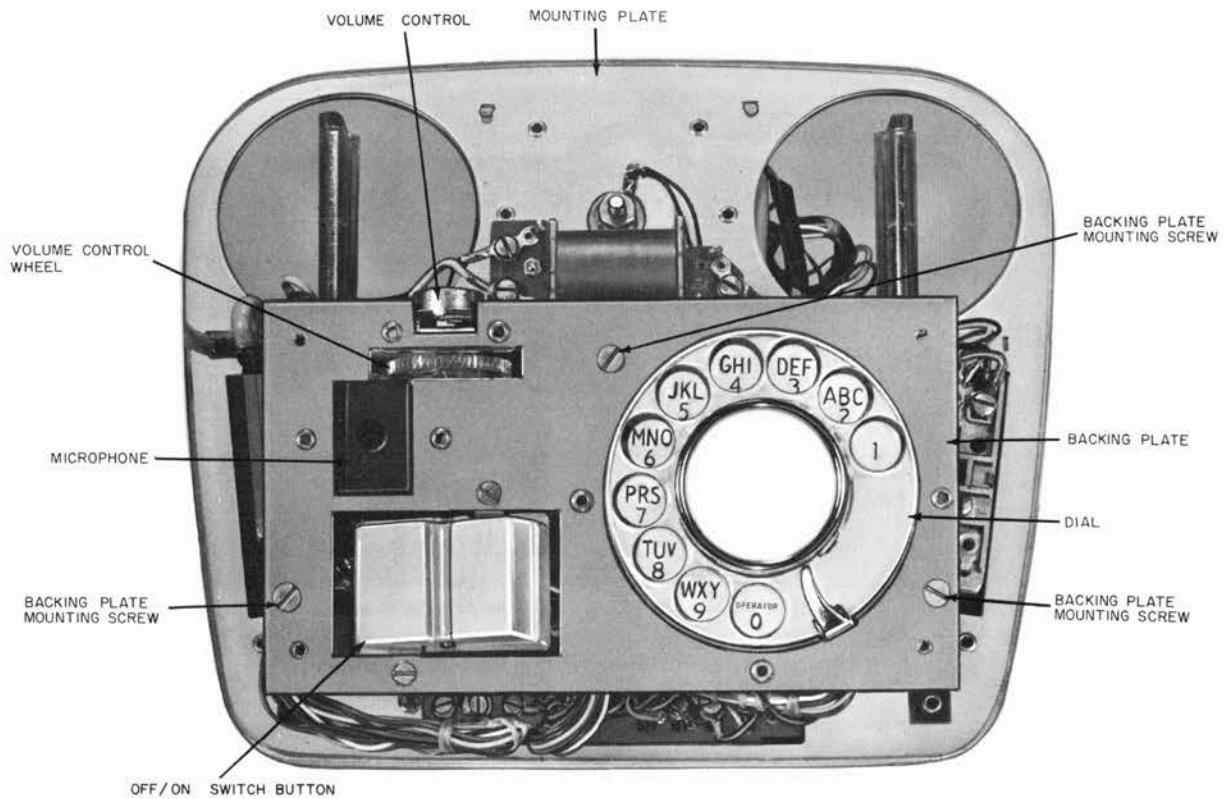
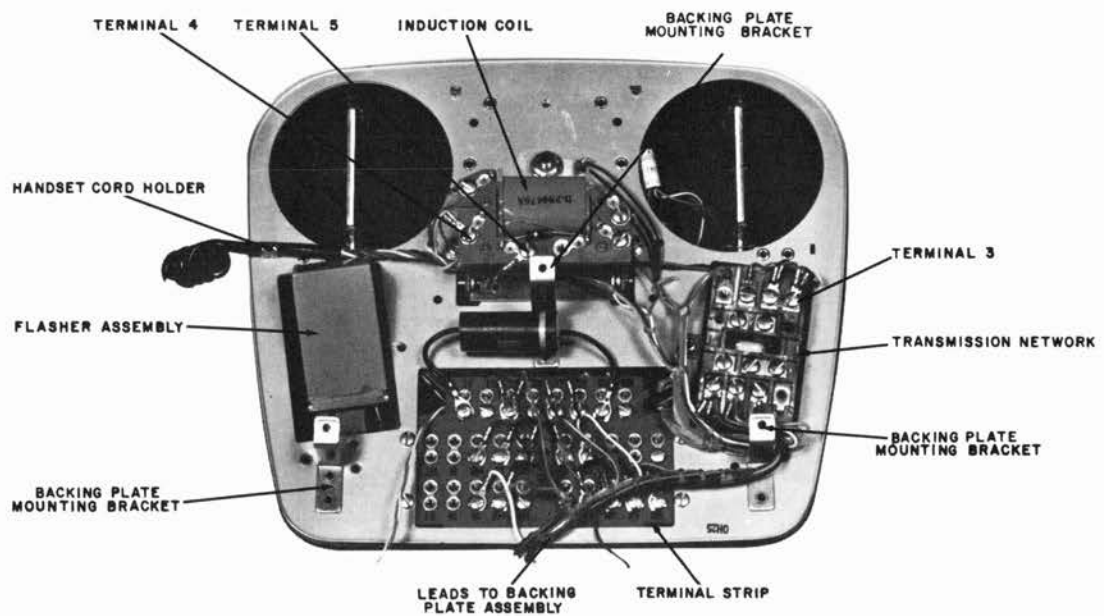
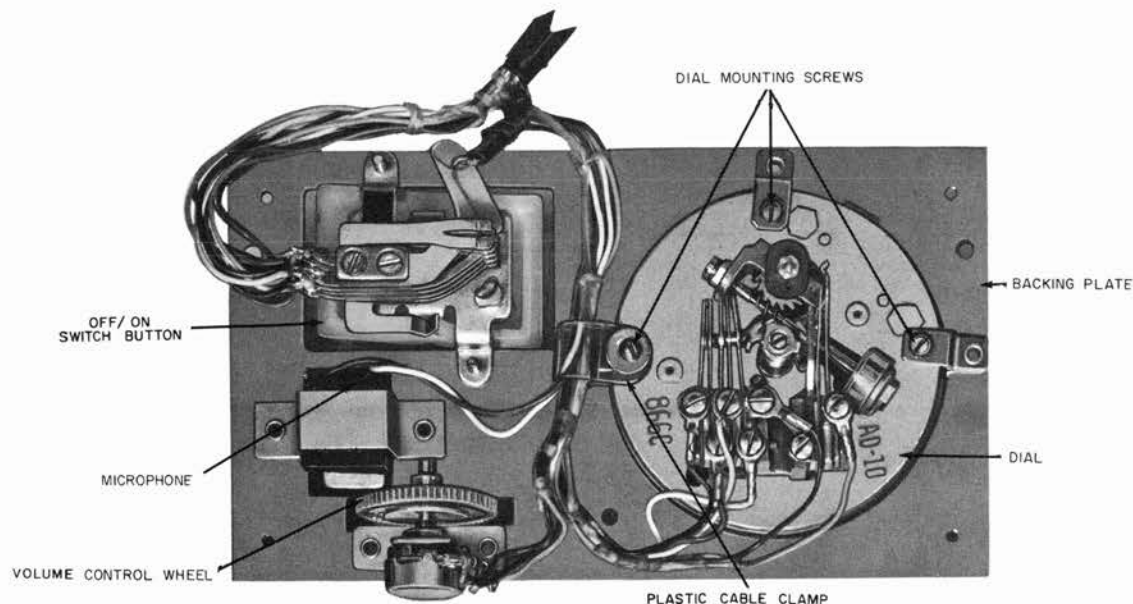

Figure 7. Main Unit Assembly with Upper Housing Removed.
Figure 8. Main Unit Assembly with Upper Housing and Backing Plate Removed.
Figure 9. Rear of Backing Plate Assembly.
- (1) Remove the upper housing. With the upper housing removed, the backing plate is in view. See Figure 7.
- (2) Remove the three flat-head backing plate mounting screws.
- (3) Remove the backing plate from the backing plate mounting brackets (Figure 8) and turn it over to examine the dial action (Figure 9). Do not disconnect the dial leads unless the dial must be replaced.
the dial leads, then remove the three dial mounting screws from the rear of the backing plate. See Figure 9. The complete dial assembly is now free and can be removed from the backing plate.
- (4) Fasten the backing plate to the backing plate mounting brackets (Figure 8), and replace the upper housing.
- (1) Remove the upper housing.
- (2) Disconnect the GRN and BLK handset cord leads from transmission network terminal 3 (Figures 8 and 12).
- (3) Disconnect the YEL lead from induction coil terminal 4, and the RED lead from induction coil terminal 5 (Figures 8 and 12).
- (4) Release the handset cord holder from the Speakerphone mounting plate (Figure 8) and pull out the old cord.
- (5) Connect the new handset cord leads to their proper terminals as follows (Figures 8 and 12).
- (6) Hook the handset cord holder to the Speakerphone mounting plate.
- (7) Replace the upper housing.